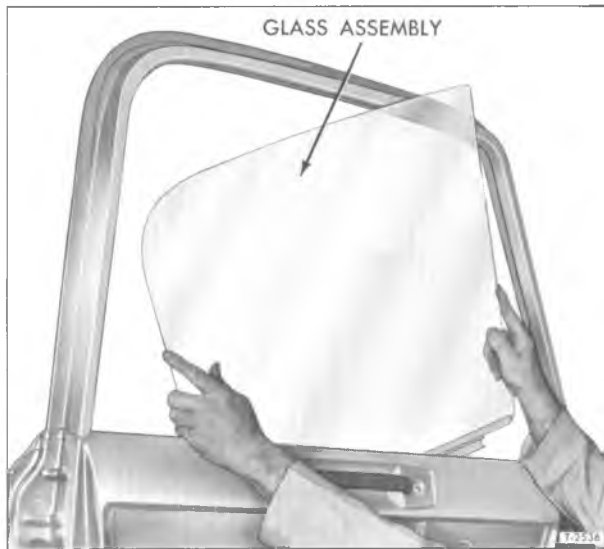

Figure 23—Replacing Door Window Glass Assembly
3. Disengage the glass from the regulator guide by positioning the roller at the guide openings and then lifting out the window (fig. 23).
3. Lower the door window assembly into door (fig. 23).